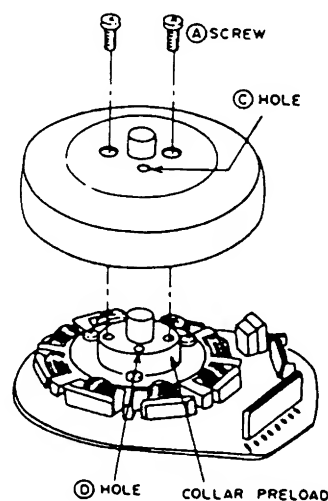

Fig. 3-24
- 1) Remove the two (A) screws then pull up the PRE AMP PCB as shown in Fig. 3-24.
- 1) Disconnect the connectors P301, P302, P303, on the MAIN (A) PCB and P1 on the A/C HEAD PCB.
- 2) Remove the three (C) screws from the MECHA. FRAME as shown in Fig. 3-24.